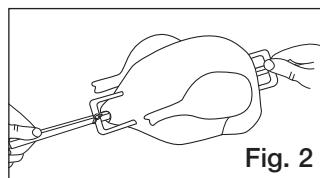

Fig. 2
2. Insert the skewers at different angles to hold the food more firmly (Fig. 2).